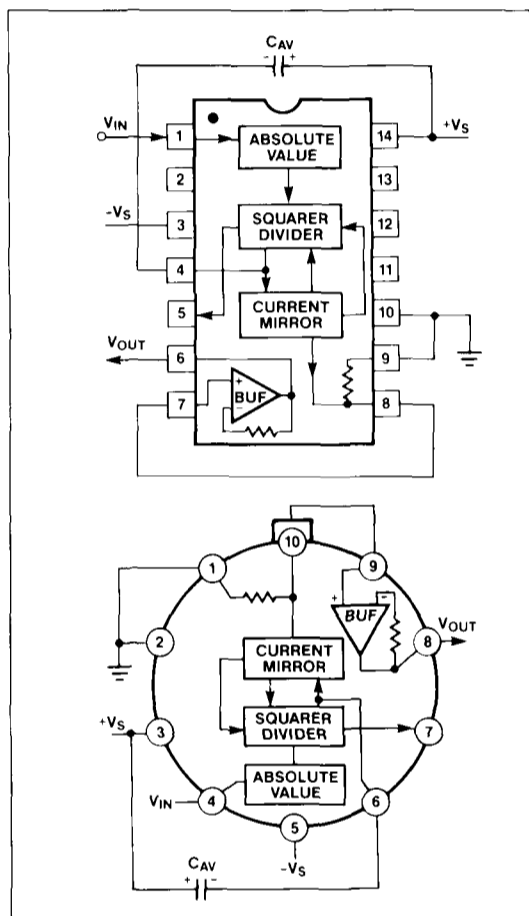

Figure 2. MX536A/MX636 Standard rms Connection
**Note 1:** Accuracy is specified for 0 to  $7V_{\text{rms}}$ , DC or 1kHz sinewave input with the MX536A connected as in Figure 2.
### Standard Connection (Figure 2)